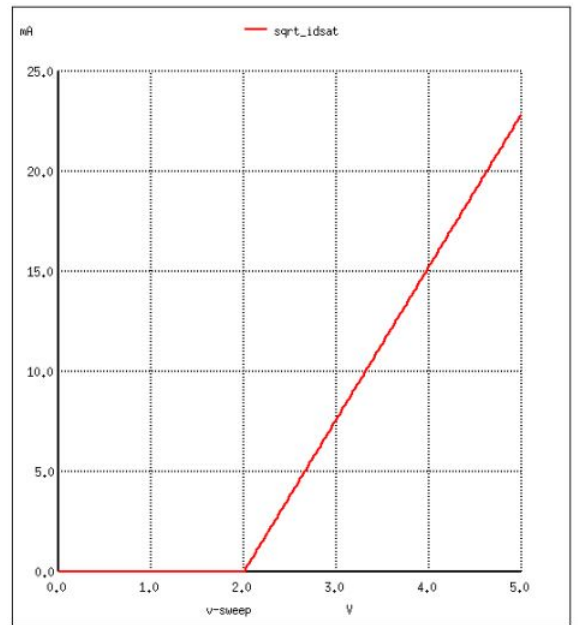

Figure 9: $\sqrt{I_D} V_{GS}$ plot of MOSFET in saturation region
1. **Linear region:-** when V_{DS} is very small (around 100mV). In this region, the current I_D is given by Eq.3. For constant value of V_{DS} , we expect a linear relationship between I_D and V_{GS} . However, we get the characteristic as depicted in Fig. 9. For small values of V_{GS} , the $V_{GS} - V_t$ difference is less than V_{DS} , and for this small region, the transistor is actually in saturation, while we expect it to be in linear region! Hence I_D varies non-linearly with V_{GS} for a small range of V_{GS} , after which it changes linearly. So we extrapolate the characteristic to estimate the value of threshold voltage as illustrated in Fig. 9.